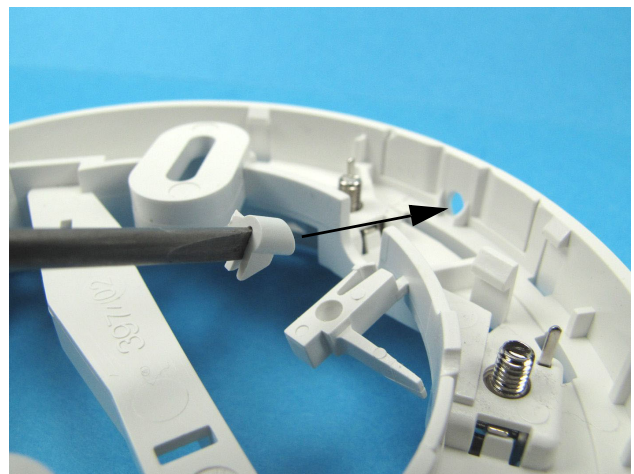

Fig. 4: Inserting the LED aperture plug
The LED aperture plug is shown in Figure 4.
- 3 From the inside, push the plug into the aperture, as shown in Figure 4.